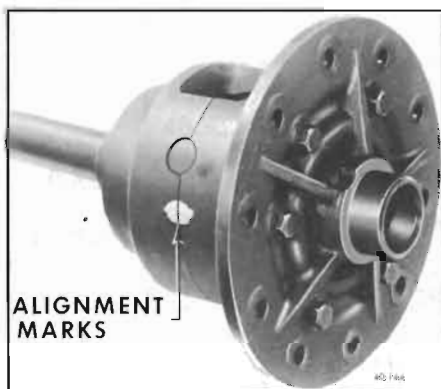

Figure 40-144—Alignment Marks
4. Mark flange half of case and cover half with a center punch or paint to provide alignment for reassembly. See Figure 40-144.